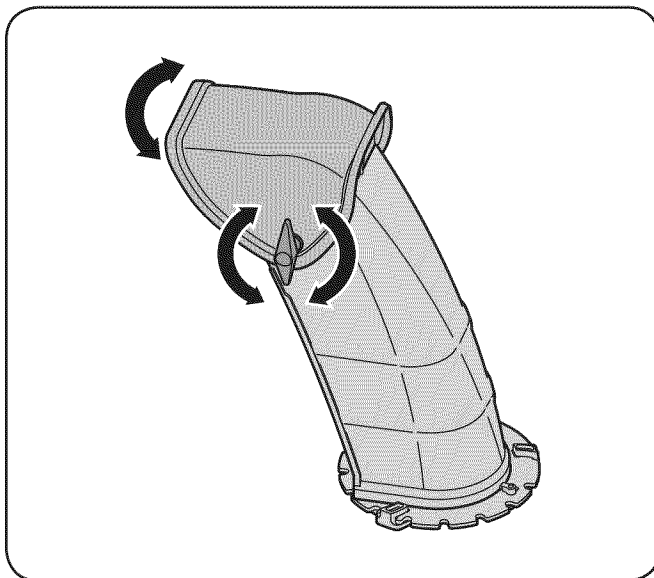

Figure 3-9
3. Remove the oil filler cap/dipstick. If the level is low, slowly add oil until oil level registers between high (H) and low (L), Fig. 3-9. Refer to the Engine Maintenance section for correct oil viscosity and engine oil capacity.
2. Pivot the chute upward or downward before retightening the wing knob. See Fig. 3-9.